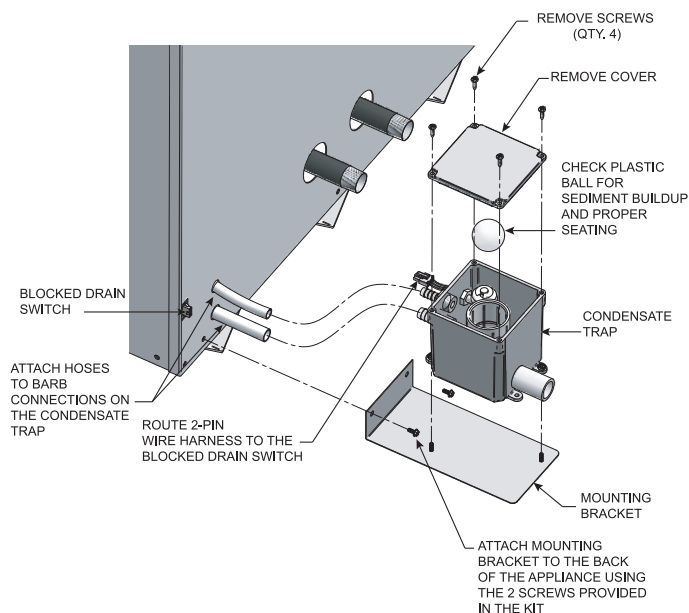

Figure 6-1 Install Condensate Trap
1. Locate the condensate trap kit shipped loose with the appliance. The kit includes a sheet metal mounting base, two (2) nuts and the condensate trap.
2. Install the condensate trap mounting base on the rear of the appliance in the lower left-hand corner as depicted in FIG. 6-1. Use the pre-drilled holes on the appliance to secure the mounting base to the appliance.
3. Secure the condensate trap to the base using the two (2) nuts supplied with the kit. The trap should be oriented so that the barb connections are pointing toward the appliance (FIG. 6-1).
5. Locate the two hoses exiting the back of the appliance. Attach the larger hose on the appliance to the lower barb connection on the condensate trap. Secure the hose to the barb with a field supplied hose clamp (FIG. 6-1).
6. Attach the smaller hose on the unit to the upper barb connection on the condensate trap. Secure the hose to the barb connection with a field supplied hose clamp (FIG. 6-1).
7. Route the 3-pin wiring harness from the condensate trap to the matching connector on the lower back of the appliance as shown in FIG. 6-1. This is the blocked drain safety switch. This switch will shut the appliance off if the condensate trap becomes too full of liquid.
8. Remove the four (4) screws securing the top cover to the condensate trap and remove the cover (FIG. 6-1).
9. Locate the plastic ball inside the float tube. Verify there is nothing under the ball causing it to not seat properly (FIG. 6-1).
12. Replace the four (4) screws removed in Step 8.
13. A 1/2" pipe connection is supplied on the condensate trap. Connect a suitable pipe or tube to this connection (see FIG. 6-1).